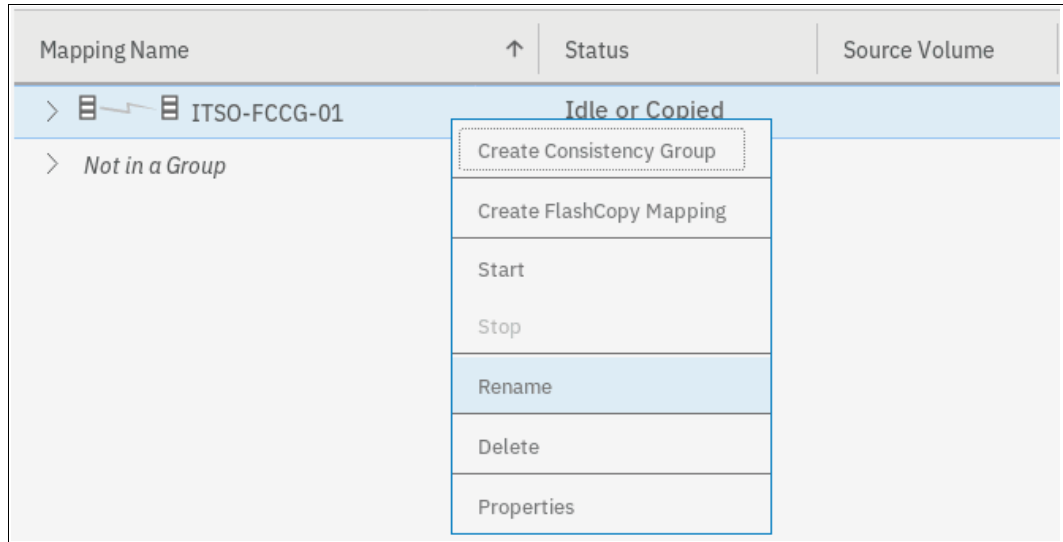

Figure 10-53 Renaming a consistency group
2. Right-click the consistency group that you want to rename and select **Rename**, as shown in Figure 10-53.